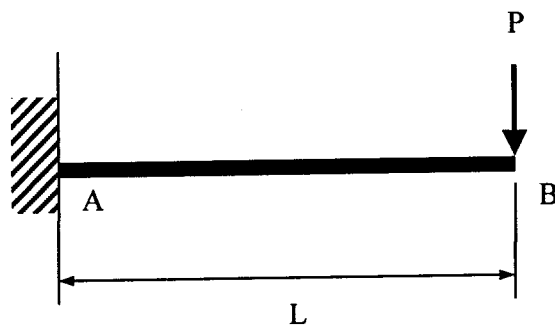

Figure 8
6. (a) Figure 8 shows a beam carrying a concentrated load of P at free end B. Prove that the angle of rotation at B is $PL^2/2EI$ by using double integration method. The modulus of elasticity and second moment of inertia of the beam are constant.